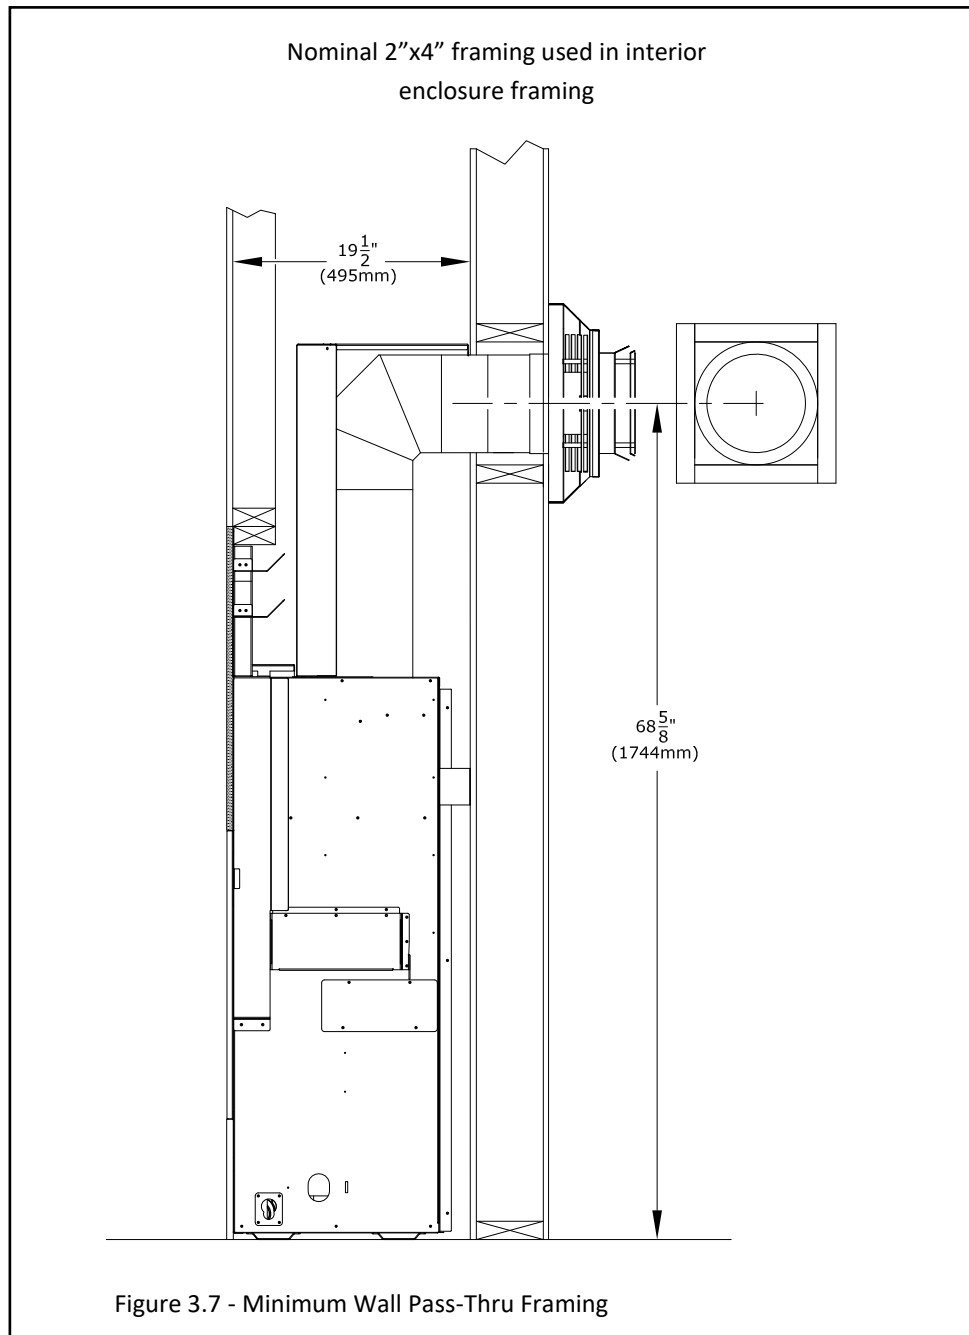

Figure 3.7 - Minimum Wall Pass-Thru Framing
Follow FIGURE 3.7 below for minimum rough-in dimensions.
1. Measure from floor level of the fireplace to the center of where the vent pipe will penetrate the wall. The dimension in FIGURE 3.7 is used with a Simpson DuraVent elbow.